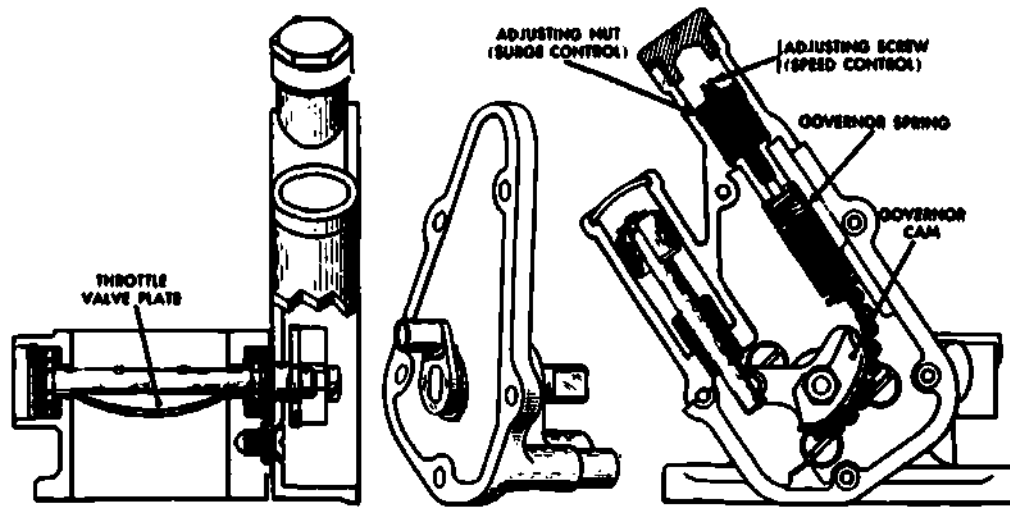

Fig 1-38. Velocity or vacuum governor.
b. The velocity or vacuum governor (fig 1-38). The velocity or vacuum governor is operated by the speed or velocity of the air-fuel mixture as it passes through the carburetor and intake manifold vacuum. This governor is mounted at a point where it can control a throttle valve. The throttle valve is mounted off center on its shaft and held open by spring pressure. The valve is placed at an angle that will cause the fast flowing air-fuel mixture to attempt to close the valve. A vacuum piston is connected to the throttle valve shaft by a lever. As the engine speed increases, the speed of the flowing mixture increases and begins to overcome the spring tension, closing the throttle valve. This reduces the amount of mixture that can enter the cylinders and thus limits the engine speed. Intake manifold vacuum and normal air pressure acting on the vacuum piston hold the valve steady. This keeps the engine speed from surging.